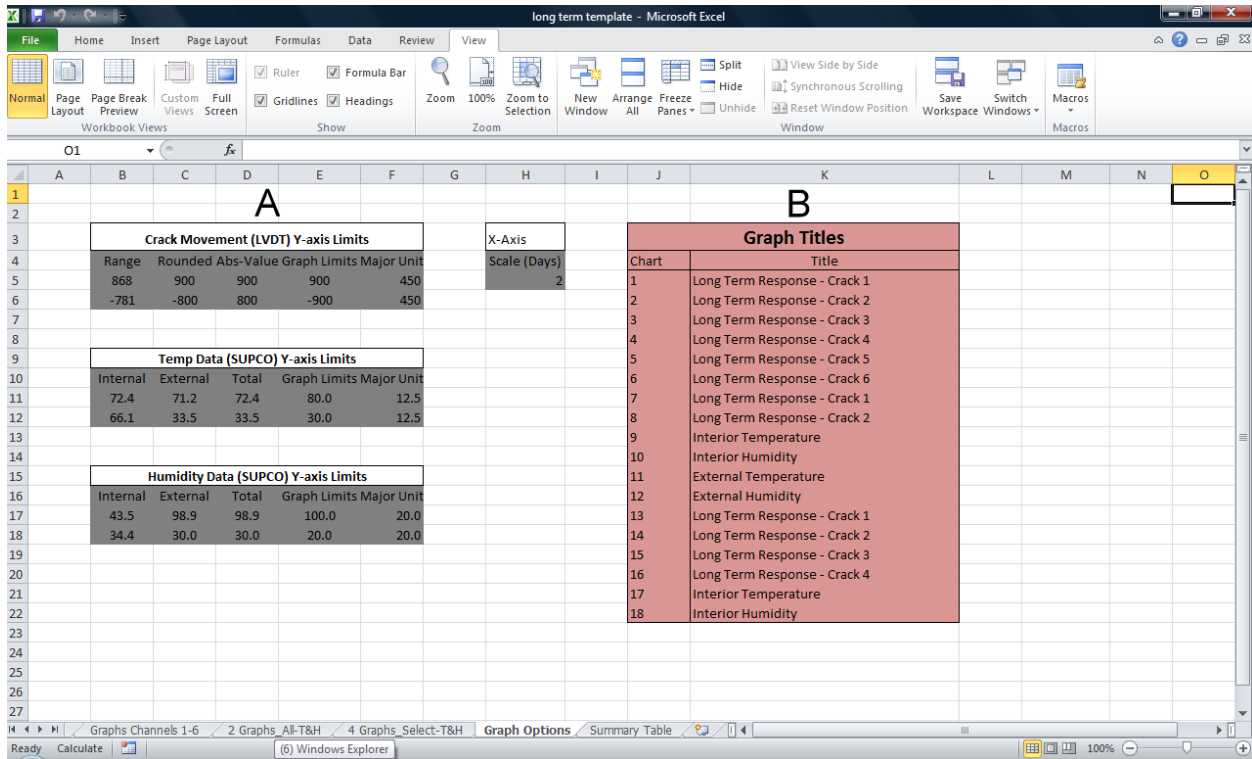

Figure 36: Long Term Template Graph Options Annotated by Letter
13. Switch to the **fifth** spreadsheet tab titled **Graph Options** shown in Figure 36